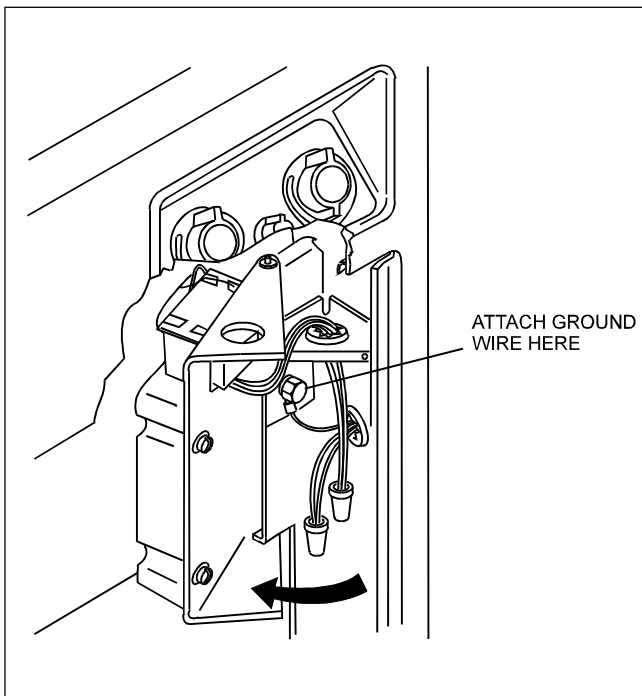

Figure 7. Field Wiring Connections
2. Connect the wires from the source to the leads on the right side of the heater in the space behind the ignition control (see Figure 7).